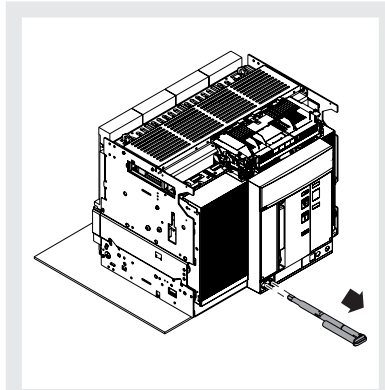

Figure 42
8. Extract the disconnection crank from its housing See Figure 42.